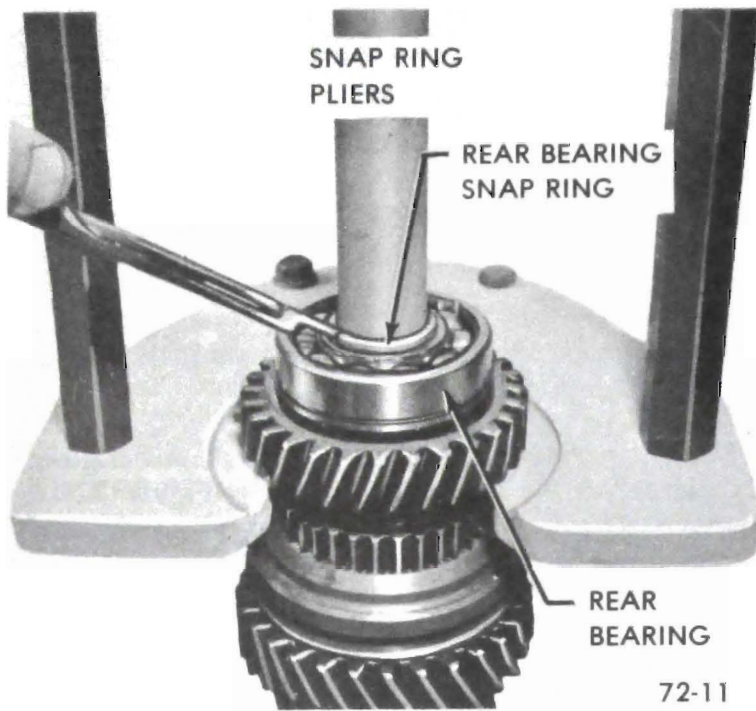

Figure 72-9 - Removing Rear Bearing Snap Ring
3. Remove rear bearing snap ring. See Figure 72-9.